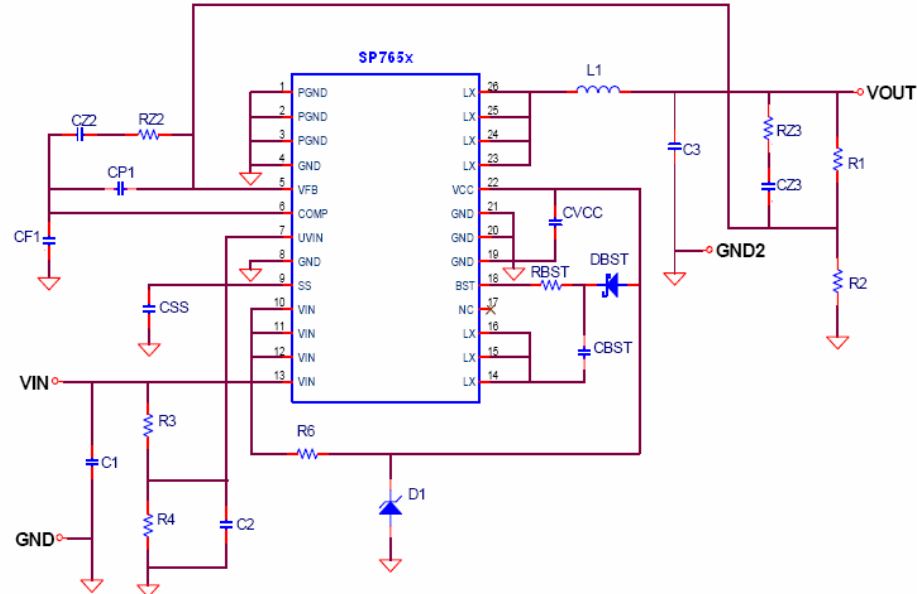
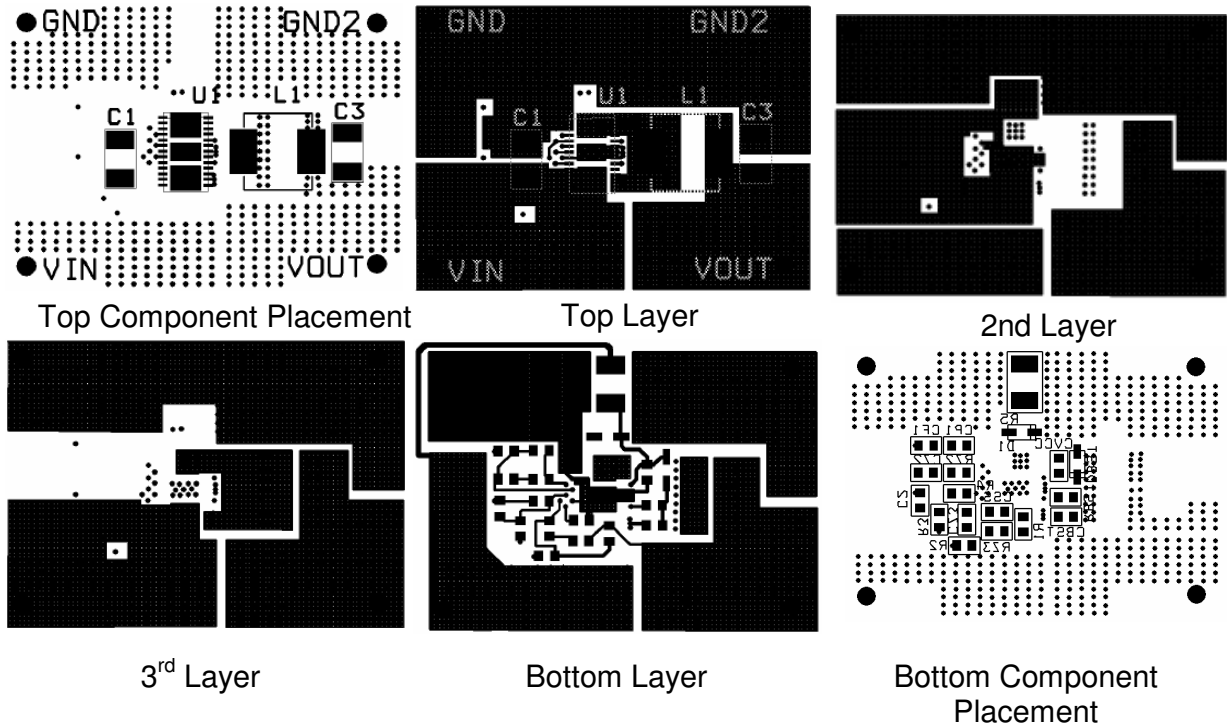

Figure 1 Typical PowerBlox™ Circuit
Figure 2 Example PowerBlox™ Layout (2 Sided Component Placement)
- 1) A typical application circuit is shown in figure 1. All components in the power path should be located on one side (which will be referred to as the topside) of the PCB, and as physically close as possible to the PowerBlox™ device. For PowerBlox™ designs these components are: Input Capacitors (connected between Vin and PGnd – C1 in Figure 1); Output Capacitors (connected between Vout and PGnd – C3); Inductor (L1); PowerBlox™ (SP765x) device. Note: If an additional Schottky diode and/or snubber network is used connected between LX and PgnD, these should also be subject to the same constraints.
- 2) All routing to and from the above components should be done on the topside of the PCB. The routing should be done by making local split topside planes for Vin, Vout, PgnD and LX or copper fills between the components (see example in Figure 2). Note: The use of vias in the power path is to be avoided.
- 3) If components are to be placed on both sides of the PCB then all feedback, compensation and bias supply passives should be on the bottom side of the PCB. Routing to these parts should also be done on the side on which they are mounted (see Figure 2). If an additional routing layer is available and required, then the layer closest to the bottom one is preferred. The path from the feedback resistor chain (R1 and R2 in Figure 1) should not be routed underneath the LX node or inductor.